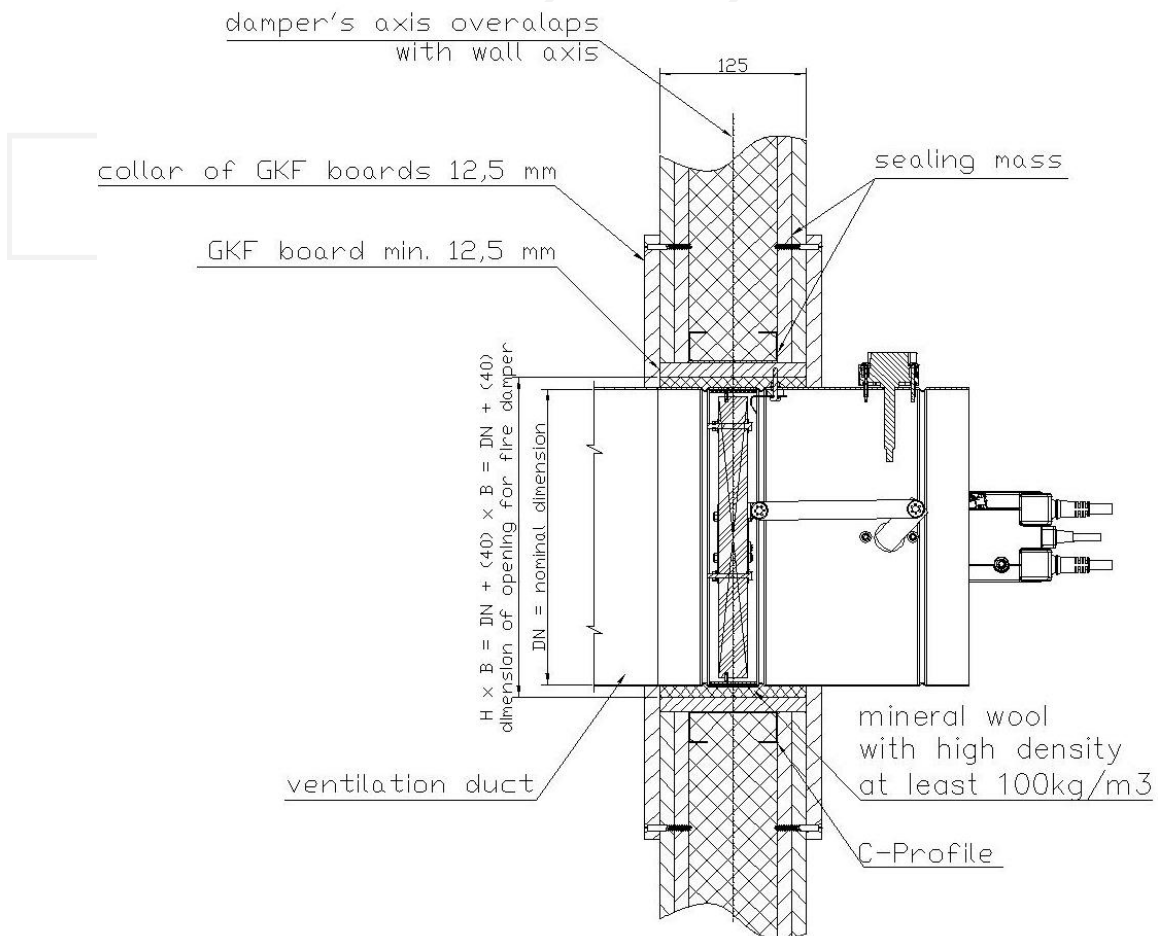

Figure 12. Installation method of fire dampers KTM in flexible wall with 125 mm thickness
- After mounting the collar, remove the supports or suspension, check the fire damper correct operation and leave it in open position (installing in KTM damper thermal fuse as shown on the fig. 12).